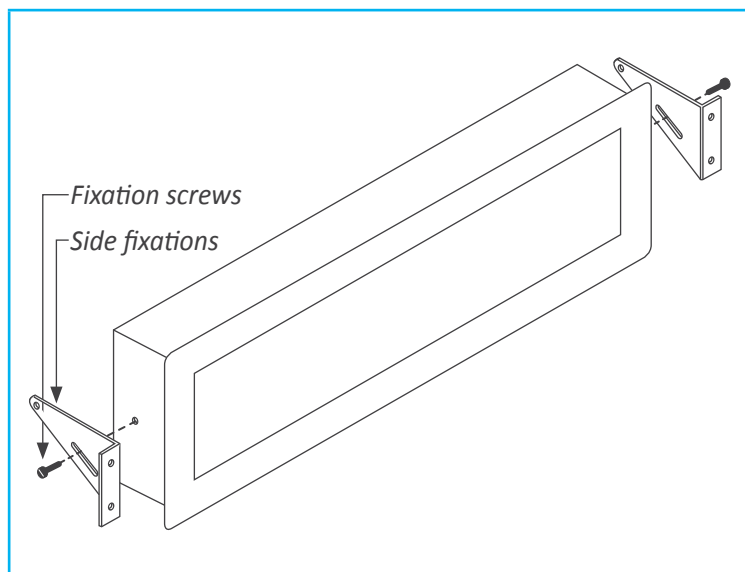

Figure 8 - Panel mount
- Panel mount. Apply the cut-out to the panel as seen on section 1.7. Remove the side fixations. Introduce the instrument into the panel cut-out. Mount the side fixations as shown (see Figure 8). Slightly loosen the fixation screw of one side and press the instrument against the panel. Tighten the fixation screw so it presses the panel and maintains the fixation. Repeat with the opposite side fixation. For IP65 protection at the panel junction, see the IPB accessories at section 3.